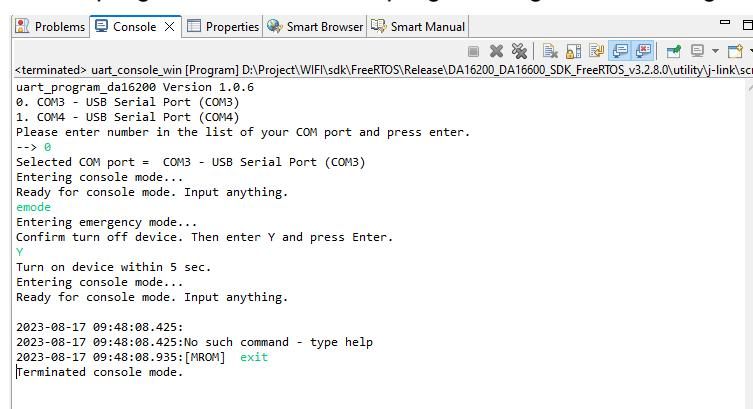

Figure 43: Emergency Mode for Programming Firmware Image
2. Programing firmware image over serial interface as shown in Figure 43.